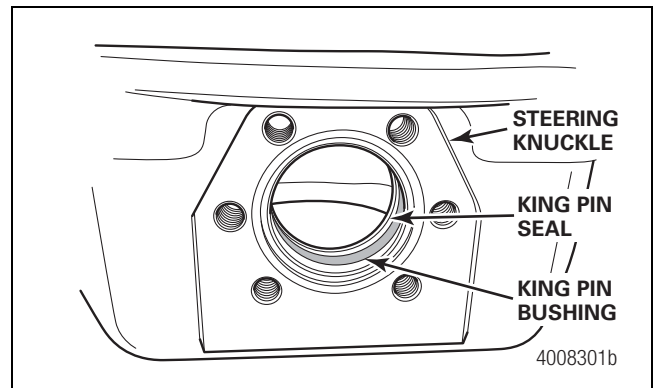

Figure 4.5
10. If worn or damaged, use a hammer and suitable driver to remove the king pin bushings from the knuckle. Figure 4.5.